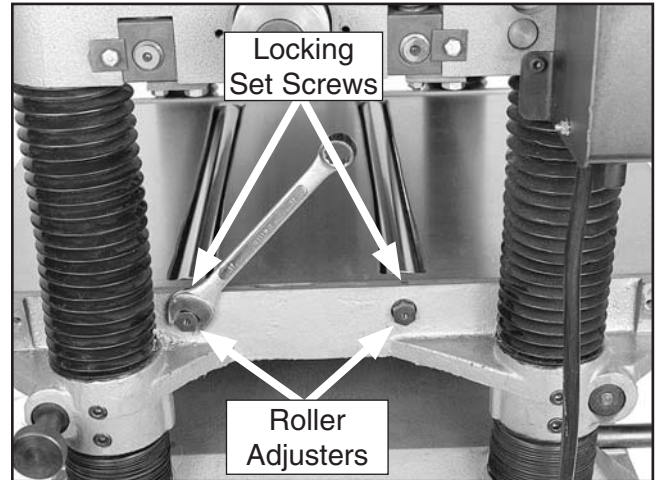

Figure 11. Bed roller controls (only one side shown).
2. Loosen the locking set screws (**Figure 11**) above the roller adjusters (4 total).